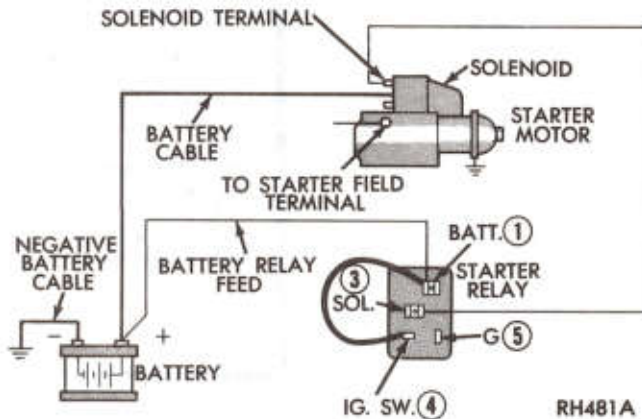

Fig. 4—Relay Test with One Jumper Wire (Typical)
(1) Position automatic transaxle gear selector in neutral or park position.
(2) Position manual transaxle gear selector in neutral.
(3) Set park brake.
(4) Do not remove relay connector.
(5) Check for battery voltage between starter relay battery (1) terminal and ground with a test lamp.
(6) Connect a jumper wire on the starter relay between battery and (1) ignition (4) terminals (Fig. 4). If engine cranks starter relay is good.